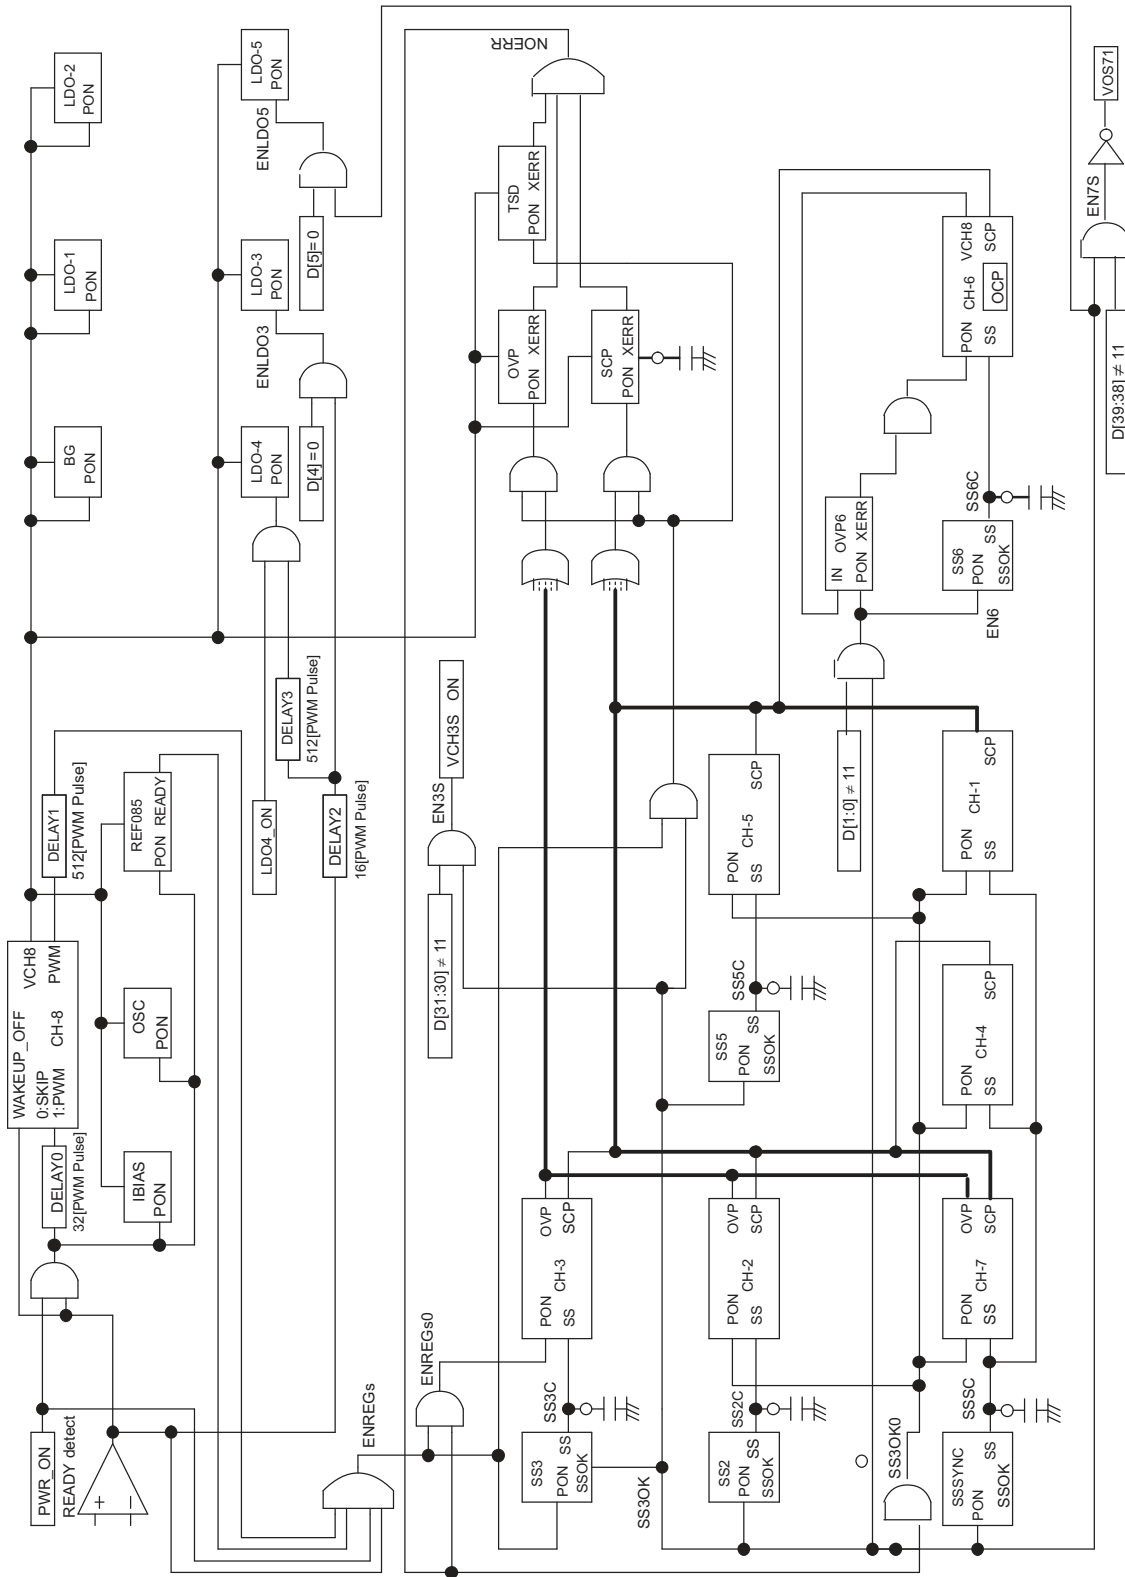
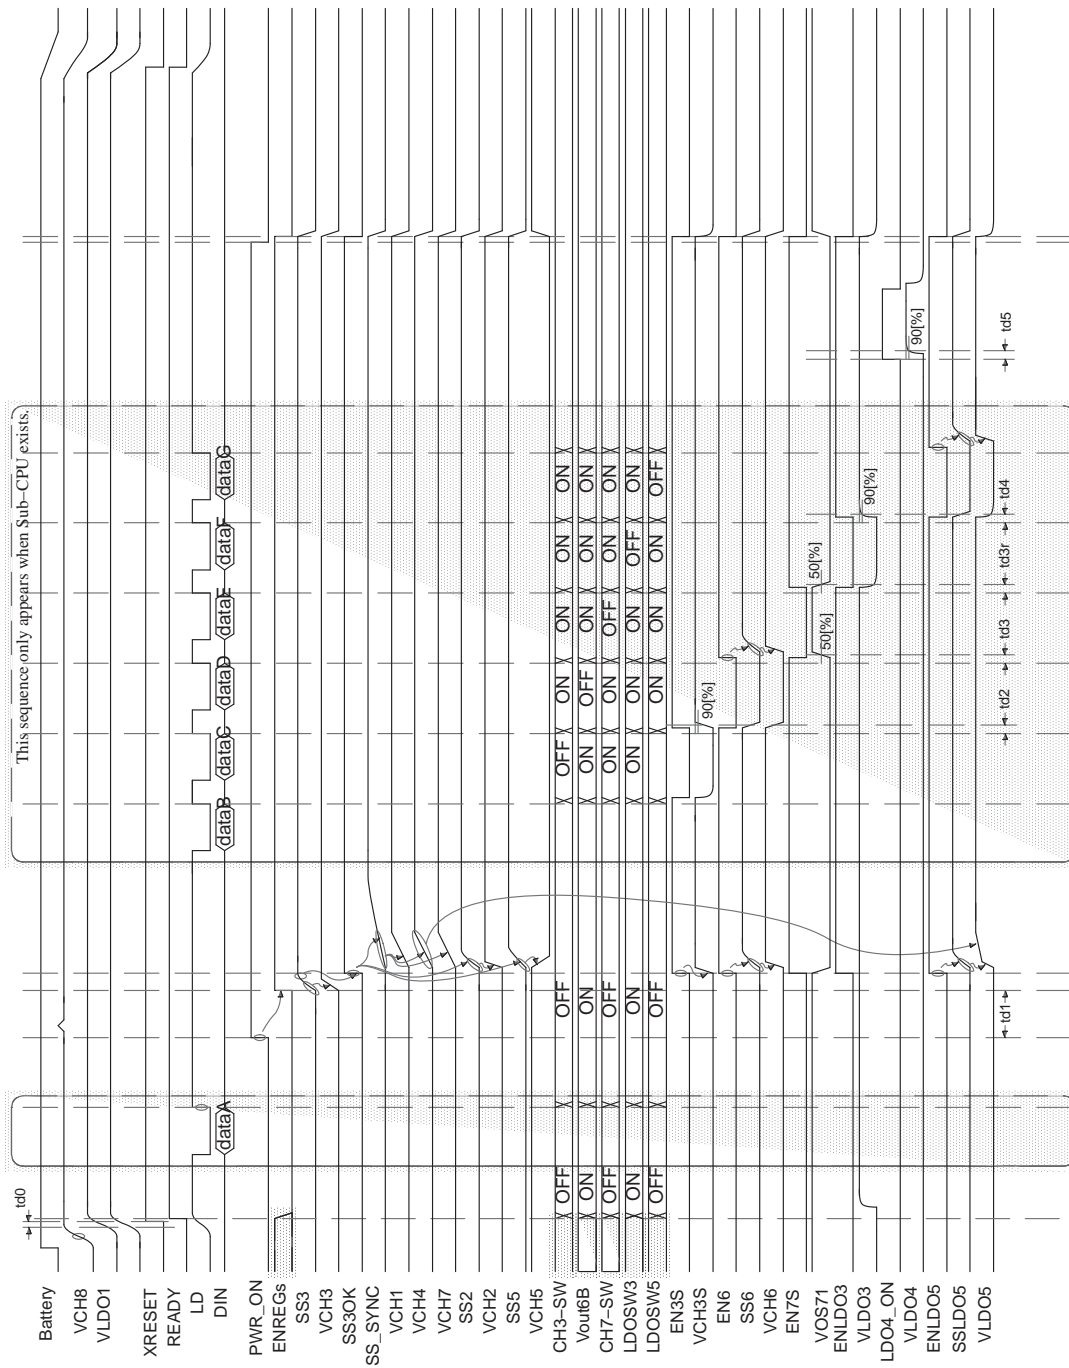

Figure 29. Enable Signal Connections
Figure 30. Operation Sequence Chart
A delay is inserted before LDO-3 is turned on so that the entire system can start up and be stable. LDO-3 cannot be turned on until approximately 30  $\mu$ s elapse after the detection of READY. DELAY2 in Figure 29 represents this delay.
To prevent an inrush current during startup, LDO-4 has a delay so that it is not turned on simultaneously with LDO-3. LDO-4 cannot be started until 1.03 ms elapses after the detection of READY. This ensures that LDO-4 is not started until 1 ms elapses after the startup of LDO-3, which is started 30  $\mu$ s after READY detection. DELAY3 in Figure 29 represents this delay.
Figure 29 shows the connection of enable signals for the TPS65520A. Figure 30 shows a timing chart. In Figure 30, ENREGs, EN3S, EN6, EN7, ENLDO3, and ENLDO5 represent the internal enable signals shown in Figure 29.
In Figure 30, the TPS65520A performs the following operation, described along the time axis in the figure:
2. On the rising edge of PWR\_ON, CH-8 exits from skip mode and enters PWM mode. The DELAY0 and DELAY1 blocks, shown in the upper part of Figure 29, insert delays to ensure that the mode transition is over before channels start operating, resulting in a total delay of 544 PWM pulses to complete this process.
The shaded portions of Figure 30 represent the on/off control applied by the Sub-CPU (if used) through the serial interface. If a Sub-CPU is used, control registers are written between the rising edges of XRESET and PWR\_ON. Any channels that have been turned off do not start until the Sub-CPU turns them on again. If the Sub-CPU specifies *off* for a channel that has been active from the startup, the channel goes off from that instant.